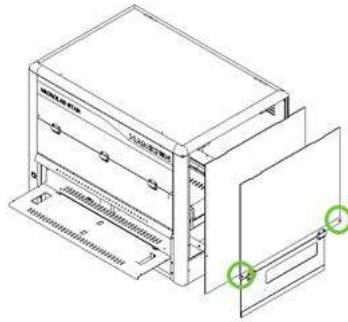

Figure A-13: Removing the right side panel
14. For field installations, remove the right enclosure panel (or panel with waste door). Remove the two screws indicated in Figure A-13 and detach the side panel from the clamps at the top of the instrument.